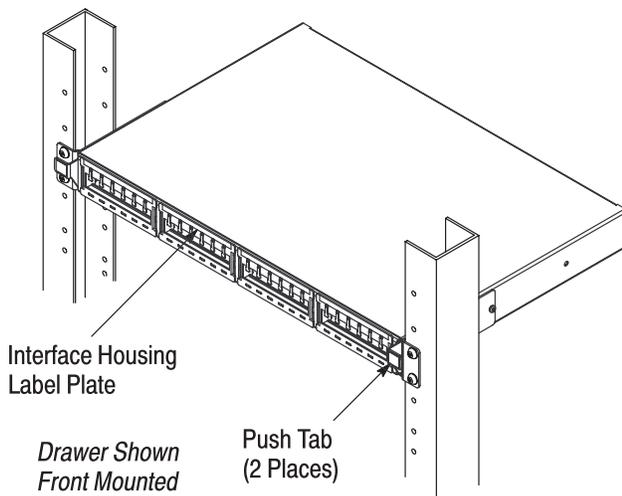

Figure 6
1. Attach a port identification label to the label plate of each interface housing (and/or cassettes) according to the connector positions. See Figure 6.
3. Slide the tray into the cover until the push tabs “click” onto the cover. Make sure that there are no fibers pinched between the cover and the tray. Refer to Figure 6.